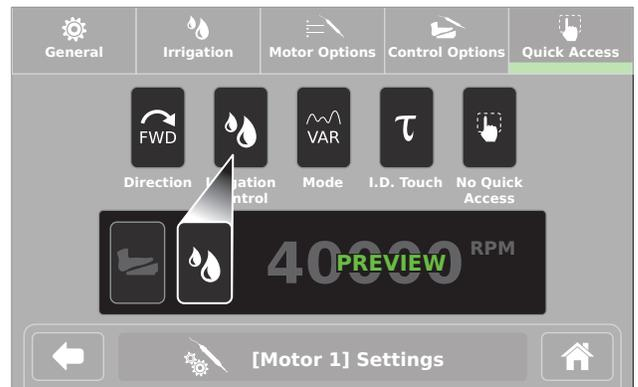

Figure 26 – Quick Access Menu Tab
Quick Access	Use this menu tab to set direction, irrigation, mode, or I.D. Touch (torque) to be accessible from the Home screen.  Choosing the No Quick Access option will remove the quick access button from the Home screen.  The PREVIEW area displays a glimpse of the quick access area on the Home screen (Figure 26).
**NOTE:** In Figure 26, the Irrigation Control option was touched and appears in the PREVIEW area.